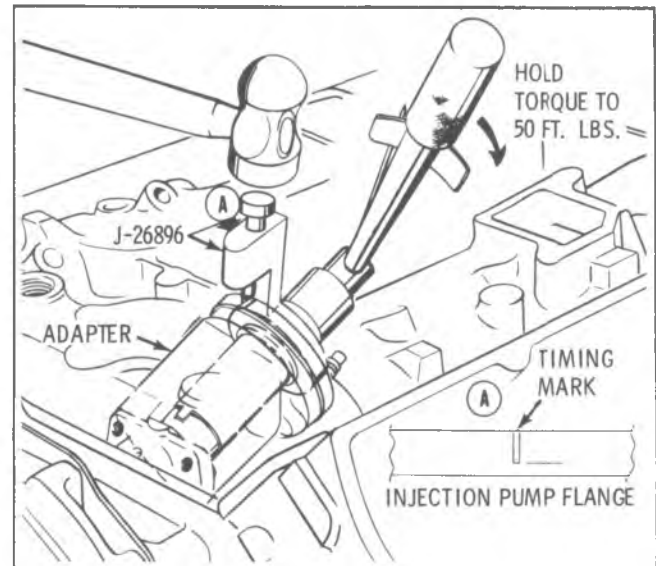

Fig. E-20—Marking Injection Pump Adapter
8. Install Timing Tool J-26896 into injection pump adapter. Torque Tool toward cylinder No. 1 to 50 ft. lbs. While holding torque, mark injection pump adapter. Remove tool. (See Fig. E-20)